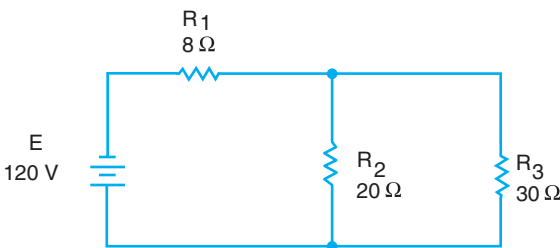
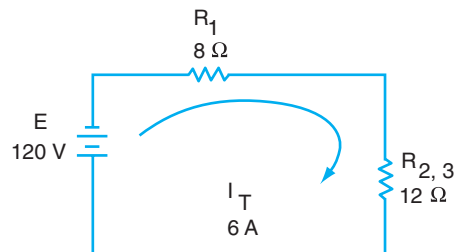

Figure 5-6 A series-parallel circuit.
Figure 5-7 Equivalent circuit.
After the total resistance of a circuit is found, the total current, as well as the current in other parts of the circuit, can be determined according to Ohm's law. In Figure 5-6, the equivalent resistance of the parallel resistors R_2 and R_3 is 12 ohms. Therefore, Figure 5-7 is the series circuit equivalent of Figure 5-6, and the total
1. a. In Figure 5-6, what circuit components are connected in series?